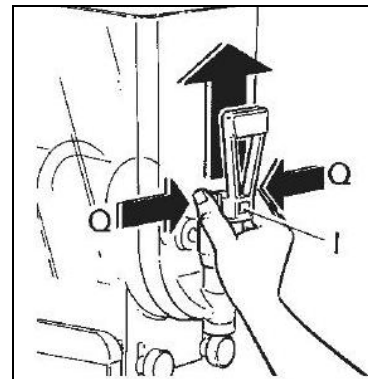

**Fig. 10**
- Pull out the upper mixing device (O) by pushing it slightly backwards, to remove it from its fixed position (see figure 10).